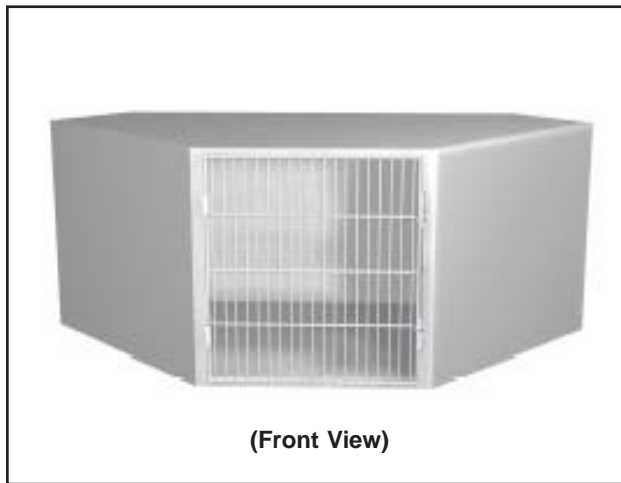

Figure 16. Standard Corner Cage
- for standard Kitty Suites (Figure 16)